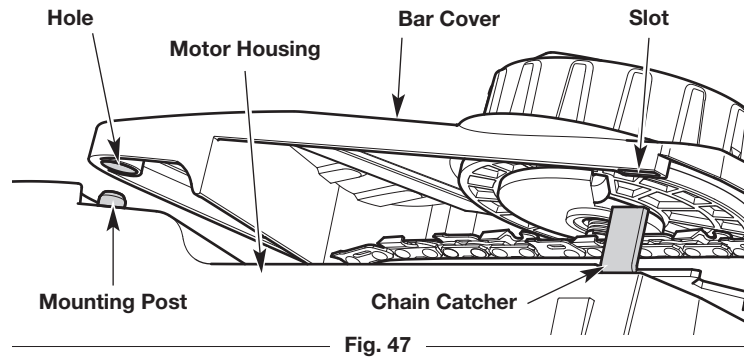

Fig. 47
6. Place the bar cover onto the motor housing. Make sure the chain catcher is seated securely in the slot on the bar cover (Fig. 47). Make sure the mounting post is seated securely in the hole on the bar cover (Fig. 47).